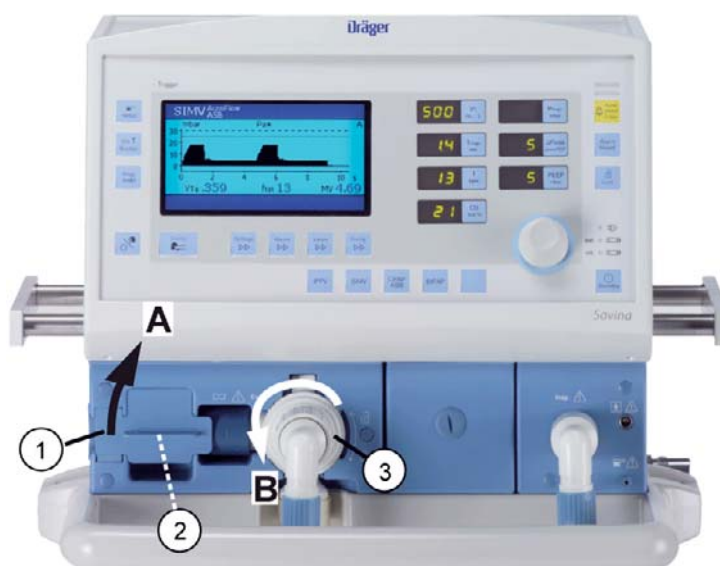

Fig. 38 View of Savina; removing expiratory valve
1. Swivel the flow sensor flap (Fig. 38/1) up to position **A**.
2. Push the flow sensor (Fig. 38/2, flow sensor is located under flow sensor flap) to the left as far as it will go.
3. Turn the bayonet ring (Fig. 38/3) of the expiratory valve to the left towards **B** as far as it will go.